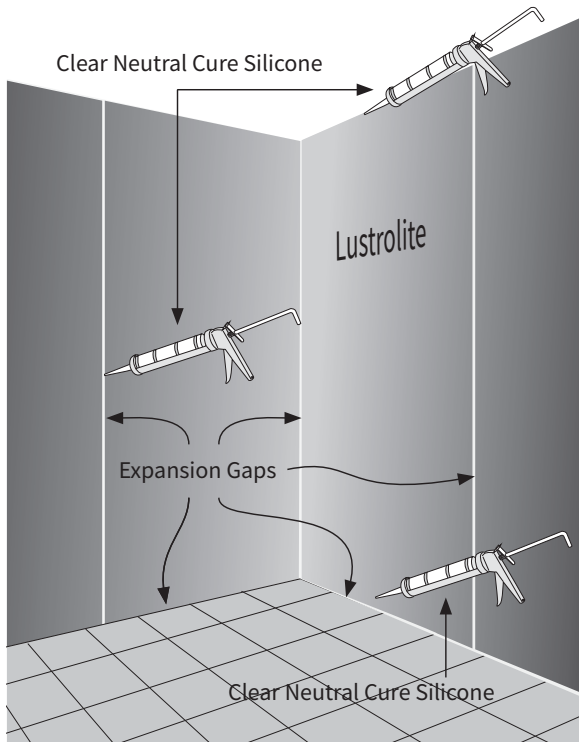

Figure 27a: Sealing Joints
- Seal all joints (and ends) with **clear neutral cure** wet area silicone (Figures 27a and b)
- Seal the joint with clear neutral cure wet area silicone (Figures 27a and b)